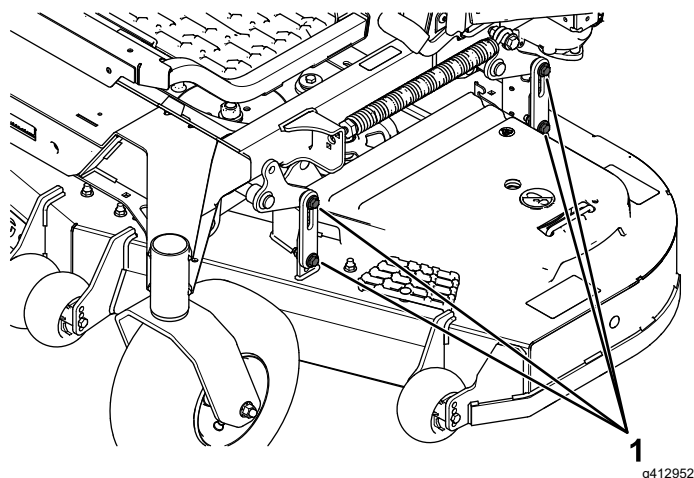

**Figure 110**
16. Loosen the bolts (Figure 110) on all 4 corners and ensure that the mower deck is sitting securely on all 4 blocks.